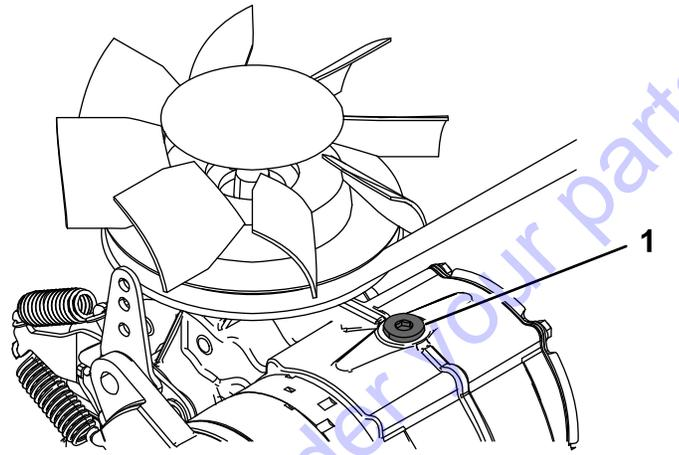

Figure 51
10. Loosen the vent plug in each transmission until loose (Figure 51).